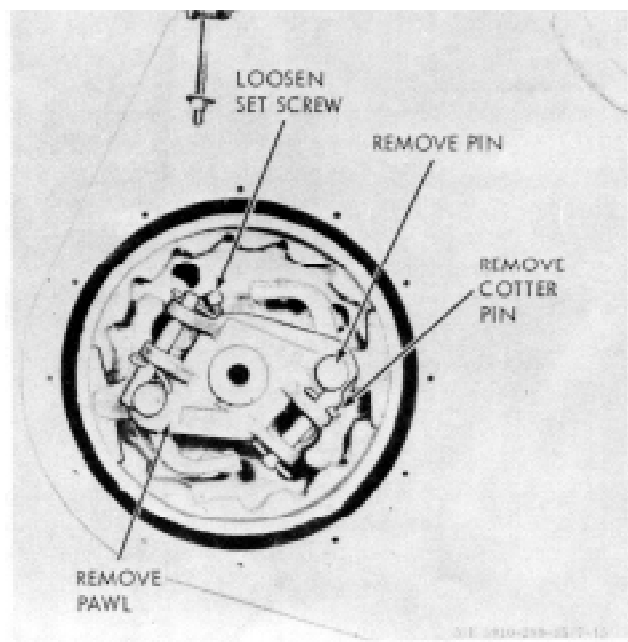

Figure 4-18. Boom hoist safety pawl.
a. Safety Pawl Removal (fig. 4-18).
(1) Part the drive chain by removing cotter pins in pin link assembly at any pin link.
(2) Remove the cover plate from left side of gear case.
(3) Remove cotter pins from lowering pawls pin and loosen setscrew.
(4) Remove pawl pins and lift pawls from shaft.
(3) Slide control shaft into gear case, being careful not to damage oil seal.
(4) Install sprocket against shoulder of shaft and lock in place with setscrew.
(5) Refer to figure 4-18 and replace pawl.
(6) Replace gasket and cover plate and connect drive chain.